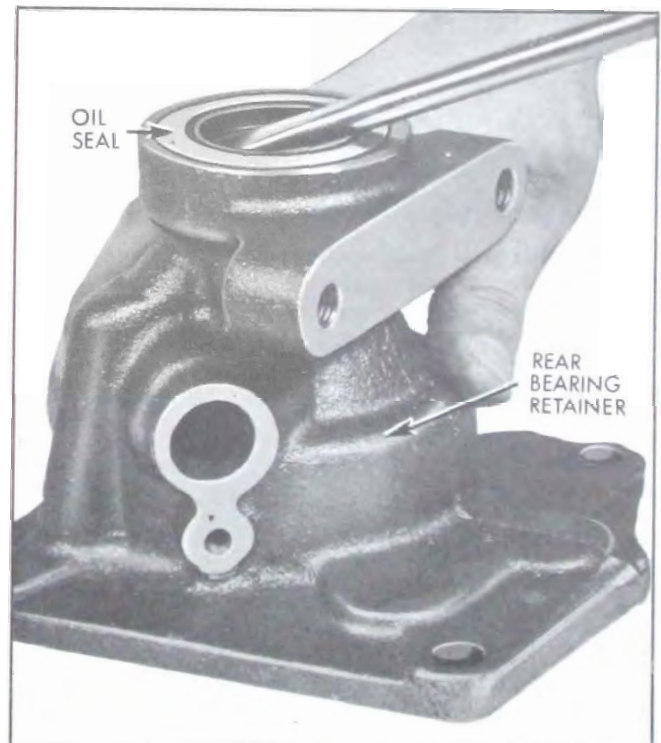

Figure 4-15—Removing Rear Bearing Retainer Oil Seal
4. Remove rear bearing retainer and gasket. Remove speedometer worm gear from main shaft. Pry oil seal from retainer. See Figure 4-15.